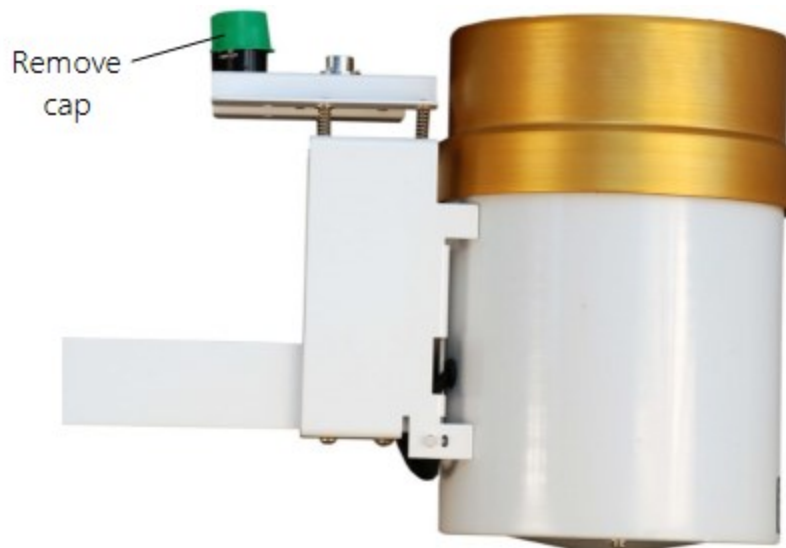

FIGURE 6-20. Remove red or green pyranometer cap
2. Remove the red or green shipping cap from the pyranometer (FIGURE 6-20 (p. 32)).